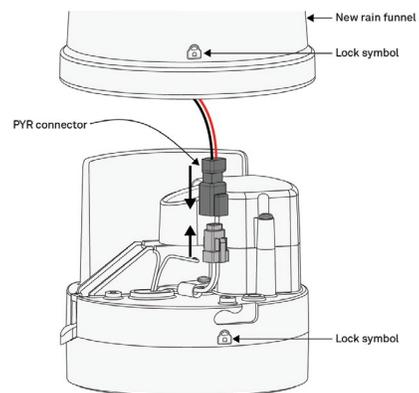

Figure 5. Pyranometer cable connector
9. Connect the new rain funnel pyranometer cable connector to the ATMOS 41 connector (Figure 5).
On newer ATMOS 41 designs, the gray lock symbol on the rain funnel should be lined up with the lock symbol molded into the ATMOS 41 base (Figure 5).